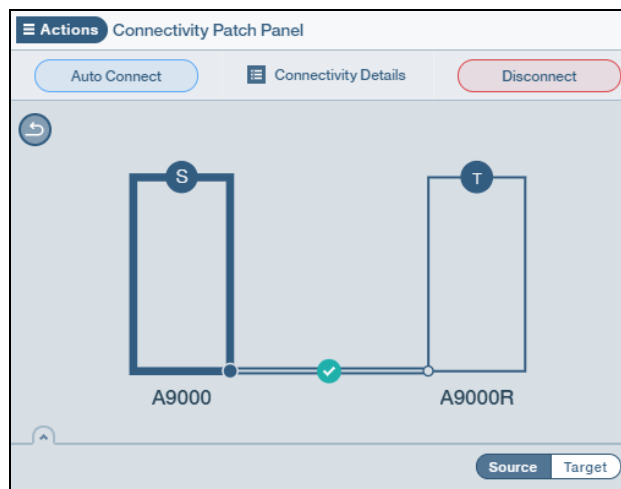

Figure 7-4 Connectivity between two A9000 systems
1. Confirm that both the source and destination are configured and accessible in the Hyper-Scale Manager and that there is FC connectivity between these systems. Figure 7-4 shows the source (A9000) and destination (A9000R) systems with confirmed connectivity between them.